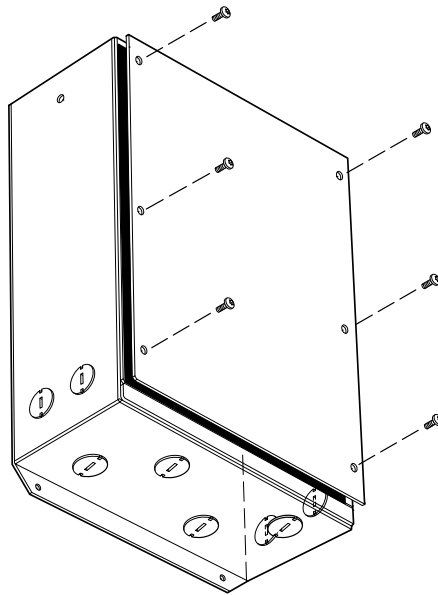

Figure 24. Wall-Mounted Bypass Switch Knockouts
1. Remove the knockouts in the bottom or side of the bypass switch for AC Line Input, AC to UPS Input, AC from UPS Output, and AC to the UPS load (see Figure 24).
3. Remove the six screws from the bypass switch front cover and remove the cover (see Figure 24).